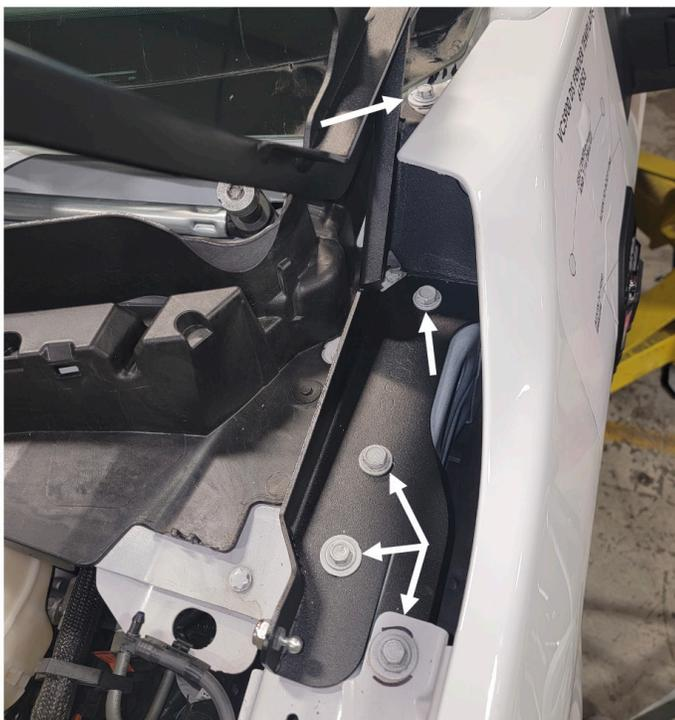

Figure 8.
7. Install the driver and passenger side hood bracket assemblies onto the truck reusing the OE hardware taken off during step 5. Use a 10mm and 13mm socket to fasten the brackets in place. Figure 8.